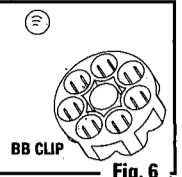

Fig. 6
- Remove the plastic BB clip and place a plastic BB, in each chamber of the clip (Fig. 6). **IMPORTANT:** To avoid jams or deforming the plastic BBs, be sure to push the BB into the hole until it is flush.